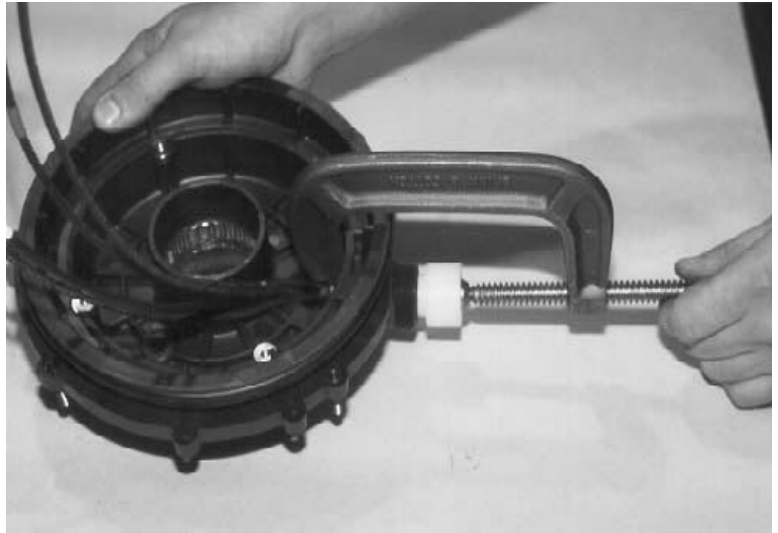

Figure X-12 LM bulkhead insert installation.
2. Install the new bulkhead insert into the motor base plate using the bulkhead driver tool(P/N:SSC-300). (Fig X-12) There will be a popping sound when the bulkhead is seated properly.